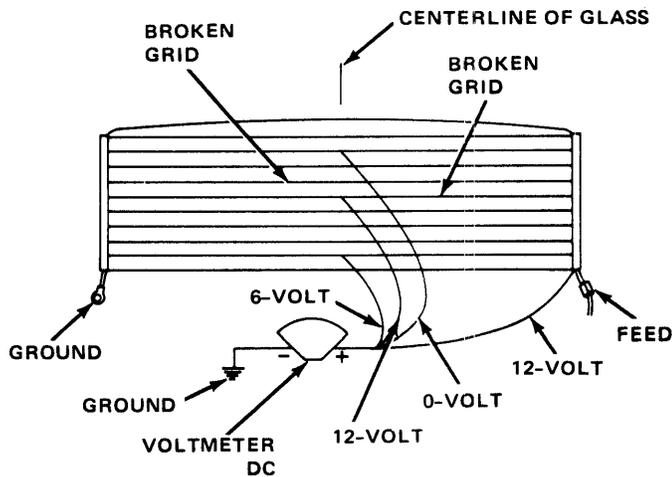

Fig. 3-98 Voltmeter Connections and Voltage Drop for Grid Continuity
(1) With engine running at idle, press tailgate window defogger switch. Defogger lamp should light, indicating defogger operation.
(2) Use 12-vdc voltmeter and contact positive lead of voltmeter to right side (feed) vertical bus element on inside surface of glass. Contact negative lead to left side (ground) bus element (fig. 3-98). Voltage drop indicated on meter should be 11 to 13 volts. Connect negative lead of voltmeter to good ground—meter reading should not change.
(3) Keep negative lead connected to ground. Use positive lead and carefully contact each grid at approximate centerline of window.
(4) Voltage drop of one-half full amount, approximately six volts, indicates good grid or closed circuit.
(5) Full voltage drop of 12 volts at centerline indicates break in grid between positive lead and ground.
(6) No voltage drop (0 volts) at centerline indicates break in grid between centerline and voltage source or feed.
(7) The exact location of the break can then be pinpointed by moving the positive lead to the left or right along the grid until an abrupt change in the voltage reading is noticed.